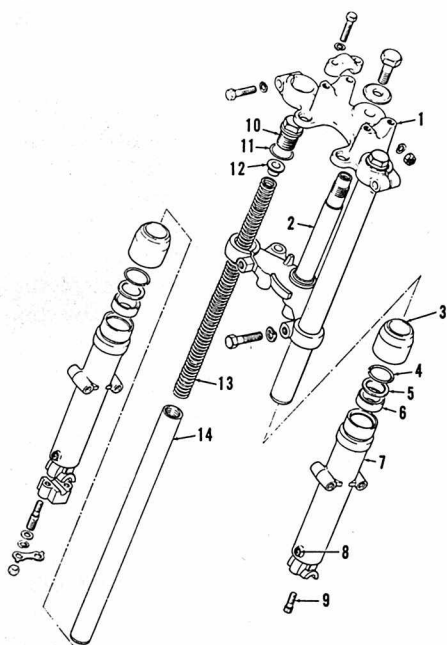

Fig. S13-9—Exploded view of TM 400R front suspension system.
**SUSPENSION.** Front suspension units on TM 400R models contain 190cc of SAE 10 motor oil each. Fork oil should be drained and renewed every 10 races (approximately 600 miles). Oil is drained by removing screws (8—Fig. S13-9). Forks may be disassembled after removing bolt (9).